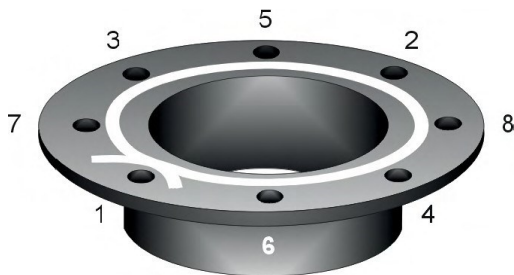

Fig. 1
- Close the ends of the sealing tape applied to the entire sealing surface on the pressure side as shown in Fig.1.
- First tighten by hand, then increase the torque in min. 4 steps until the optimum tightening torque is reached. Tighten crosswise (Fig. 1).